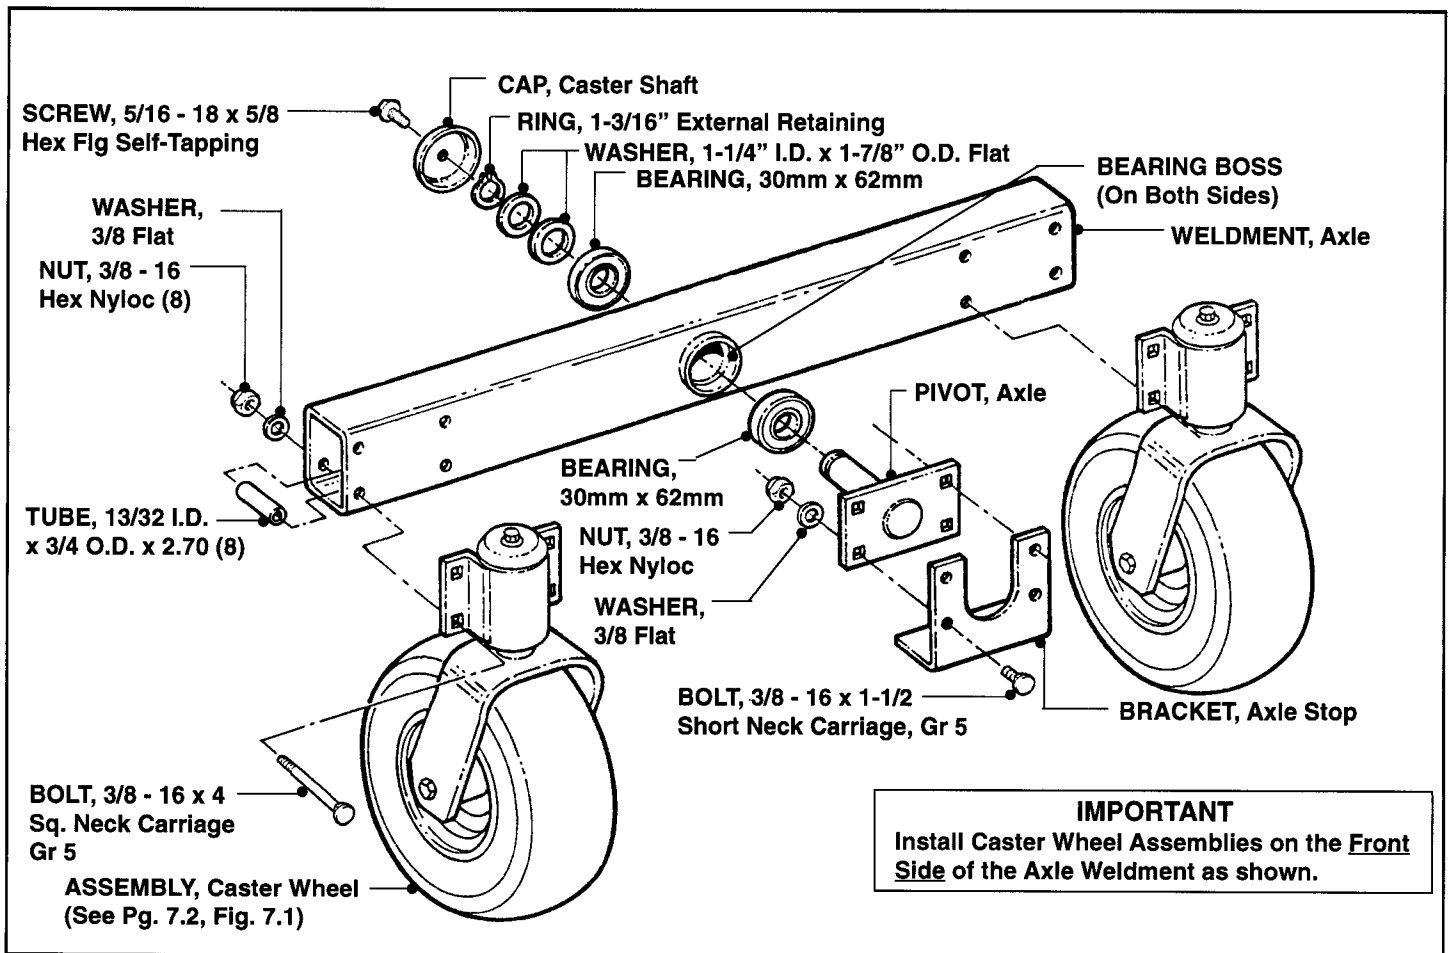

FIGURE 7.2
Components of the Caster Wheel/Rear Axle Assembly are shown in Figure 7.2 on Page 7.3.
- Remove existing Bearings by driving them to the outside with a Drift Pin. (The Bearing Bosses have a machined seating surface. Bearings cannot be removed by driving them inward). See Figure 7.2.
- Remove the four (4) 3/8 - 16 Hex Nuts, 3/8" Flat Washers and 3/8 - 16 x 1-1/2 Carriage Bolts from the Axle Pivot and Power Unit Frame. Refer to Figure 7.2.
- Install new/repaired Axle Pivot to Lower Chassis by inserting the four (4) 3/8 - 16 x 1-1/2 Carriage Bolts from the inside, attaching the Axle Stop Bracket, Axle Pivot, Washers and Nuts. Tighten securely.